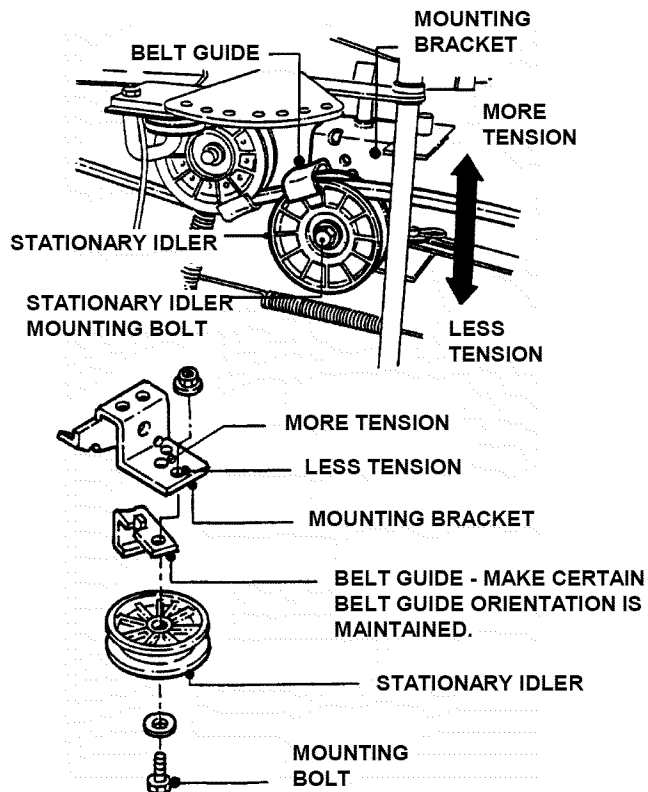

FIGURE 4.21
4. Remove the traction drive belt stationary idler mounting bolt. See Figure 4.21.
NOTE: Should less tension be required move stationary idler towards right side of tractor. See Figure 4.21.